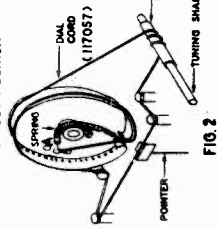

FIG. 2
1. Set drum to position shown in Figure 2 with slugs in full out position (shown in Fig. 1).
3. Pass the cord through the opening at the bottom of the drum around the rear of the left side over the top and make two and one half turns around the rubber bushing on the tuning shaft as shown in Fig. 2.
6. Form a loop in the cord and adjust for normal tension on the spring. (See Fig. 2).